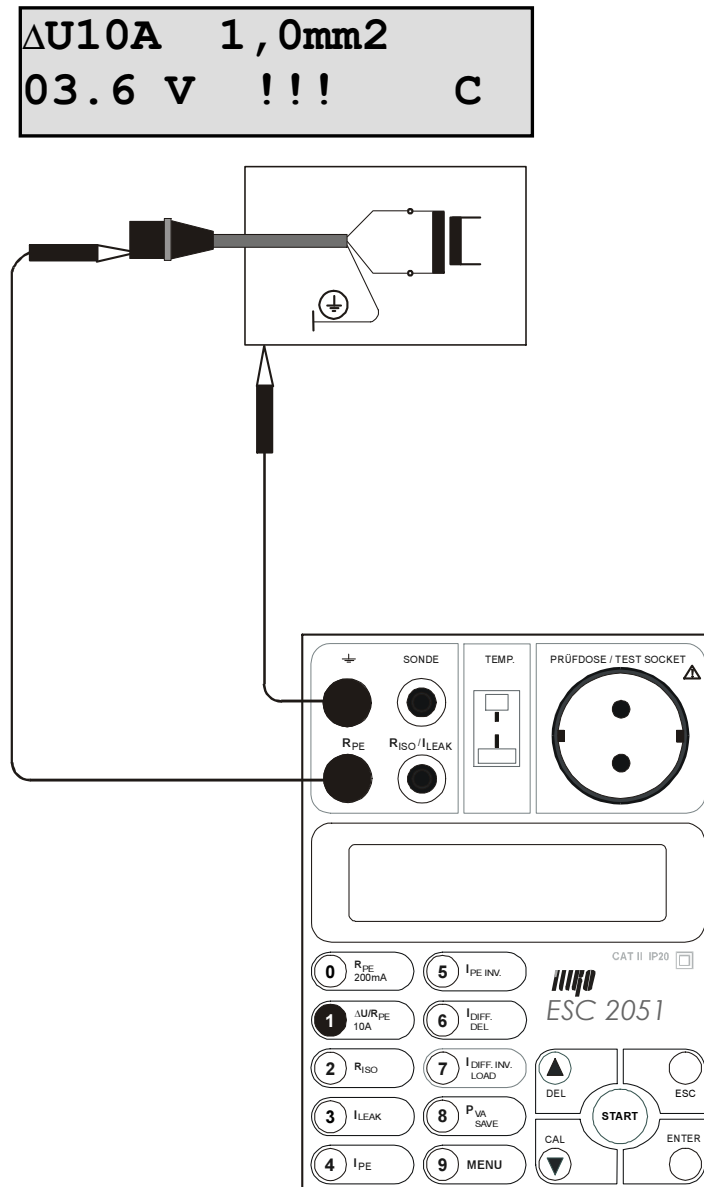

Fig. 5
- Press one test tip against earthing contact of machine under test (or connect it to protective contact of three-phase plug). Press another test tip against exposed metallic part of machine under test (Fig. 5).